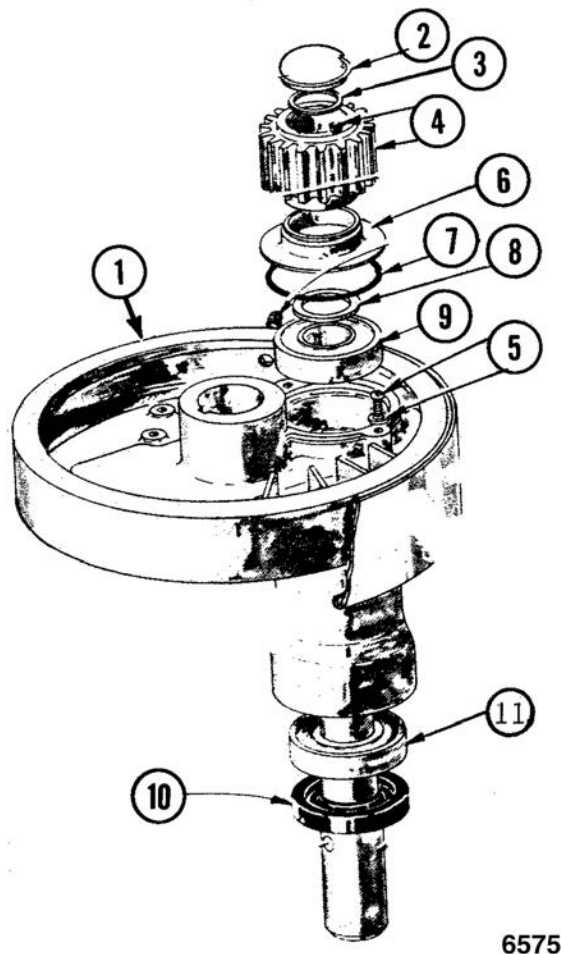

Fig. 30
3. Remove pinion gear and key [4] Fig. 30.
6. Remove oil baffle O-ring [6], shim [7] and washer [8] Fig. 30.
NOTE: Check condition of O-ring [6] Fig. 30 on the oil baffle. Replace if necessary.
7. Remove upper bearing [9] Fig. 30.
8. Remove oil seal [10] and lower bearing [11] Fig. 30 from bottom of planetary.
9. Place a light coating of Permatex # 2, or similar sealer on seat of oil retaining cap [2] Fig. 30 before reassembling.